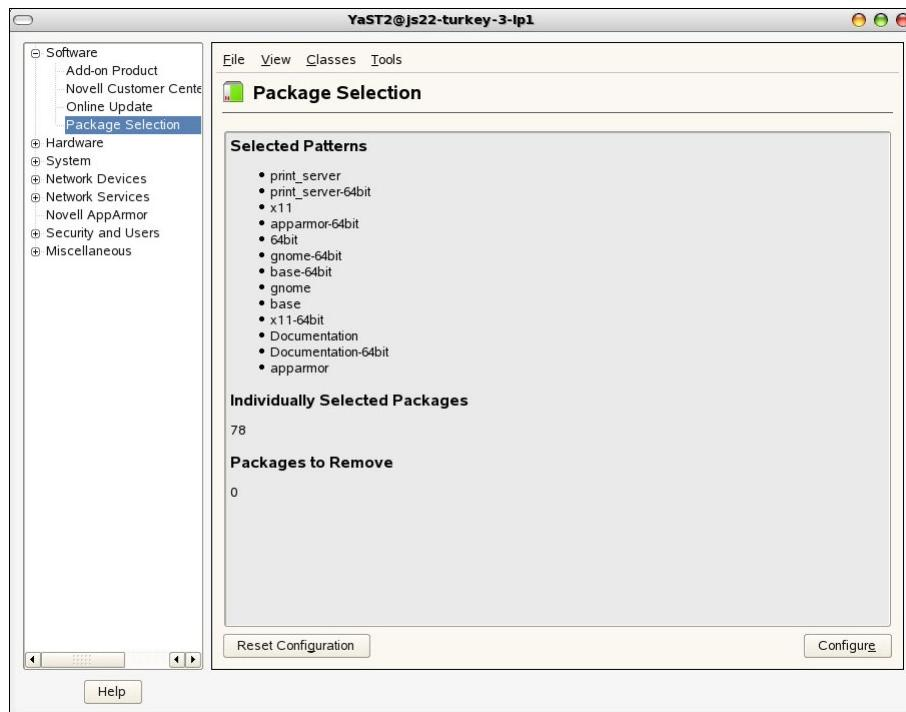

Figure B-7 AutoYaST software selection
- a. Software - Options to select and configure the Online Update and Package Selection sections. Figure B-7 on page 530 shows the **Software → Package Selection** window. We chose the minimum software configuration to save time during installation.